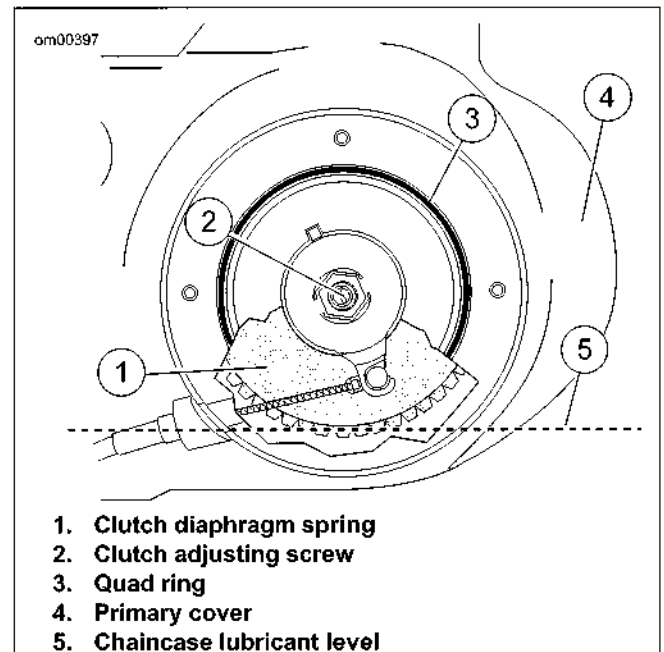

Figure 1-16. Chaincase Lubricant Level
6. See Figure 1-16. Verify that lubricant level is even with bottom of clutch diaphragm spring (1).
10. See Figure 1-16. Add 1.00 qt (0.95 L) of FORMULA+ TRANSMISSION AND PRIMARY CHAINCASE LUBRICANT through clutch inspection cover opening. Verify that level is even with bottom of clutch diaphragm spring (1).